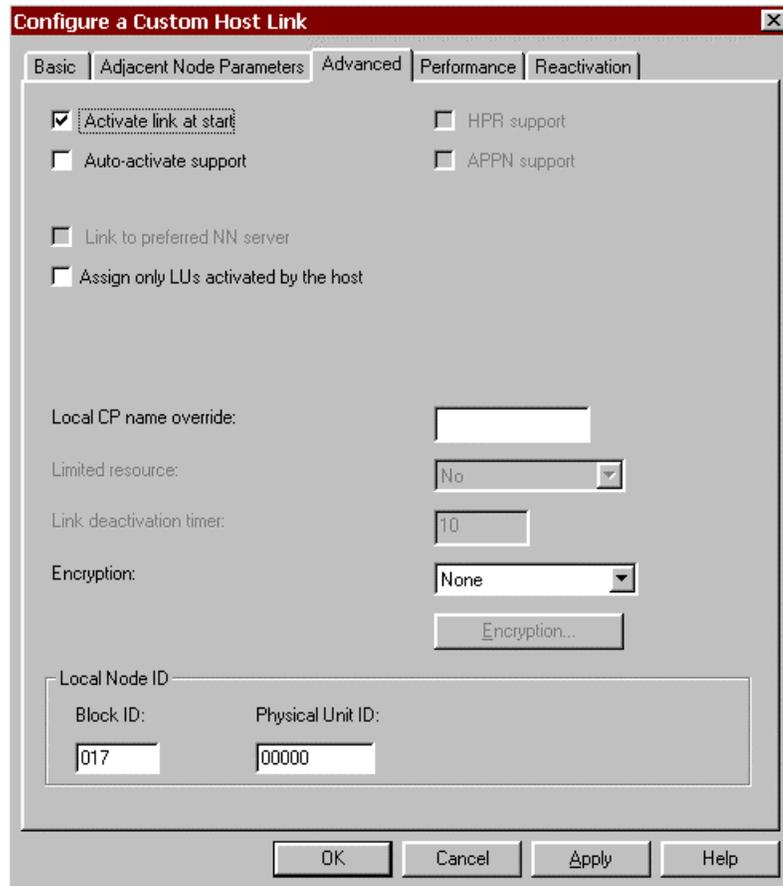

Figure 10-16. Configure a Custom Host Link - Advanced
- **Adjacent CP name:** Identifies the Control Point (CP) name of the host. If this field is entered the name must match that defined on the host or a connection will not be established. Leave the field blank to avoid checking.
5. Click the **Advanced** tab (Figure 10-16):